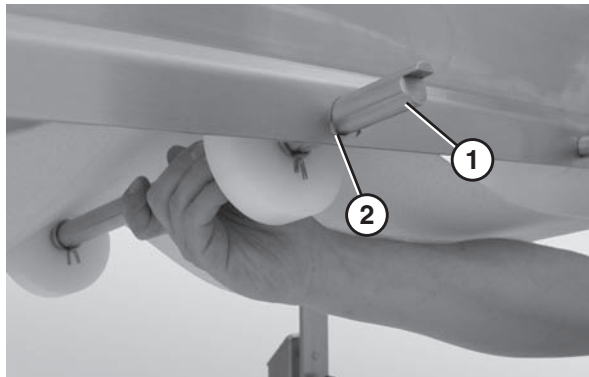

Figure 26
1. Slide the return shaft (**Figure 26, item 1**) up and through the large slot (**Figure 26, item 2**) in the frame.